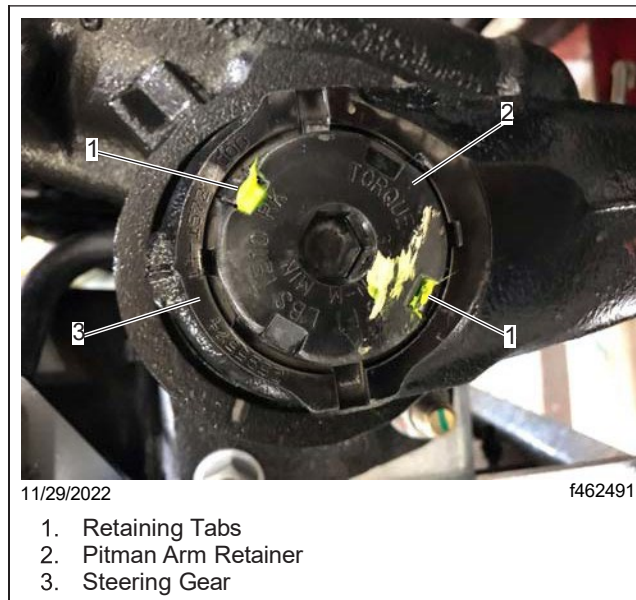

Fig. 6, Bending the Pitman Arm Retaining Tabs
4. At the pitman arm-to-steering gear connection, use a punch to bend the retaining tabs out of the pitman arm retainer. See Fig. 6.